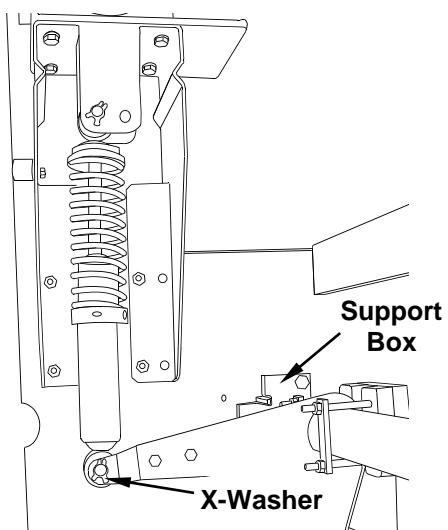

Figure 4.2-35
3. Remove the three screws that mount the support box to the kickback plate (See Figure 4.2-35) **on the shock absorber end of the cushion only!**